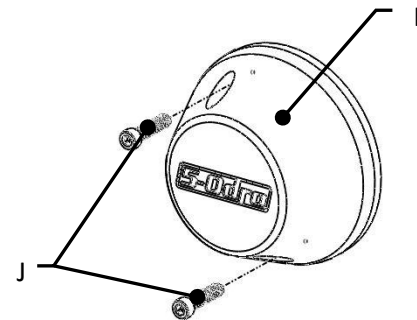

Figure 4: Timing Cover Slider Assembly (2003-07)
3. Pass two bolts (item J) through the timing cover slider (item I) per figure 4 & backing plate then thread into the existing threaded bosses evenly until snug and the slider is no longer moveable.